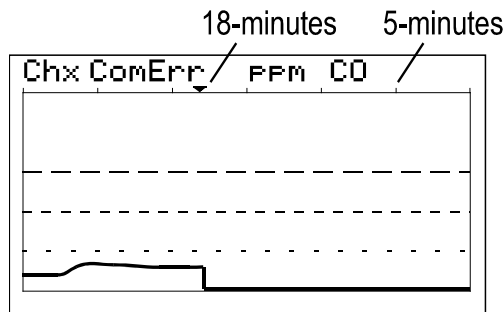

Figure 5.4
- **Communications Error** – Each channel’s 30-minute trend screens (Figure 5.4) are very useful for diagnosing wireless problems since it indicates amount of time since the most recent transmission was received. The down arrow on top of the trend screen resets to far right each time a transmission is received by that channel. When not in alarm, ST-48/RFs transmit each 5-minutes so the arrow should never progress past the 5-minute interval. The ST-90 activates the channel’s **FAULT** alarm and indicates ComErr if no transmission has been received in 18 consecutive minutes.